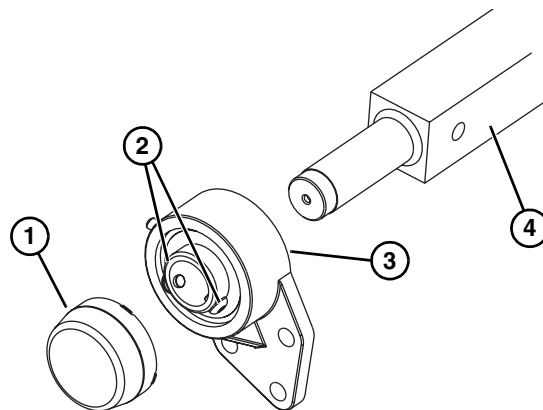

Figure 67
2. Remove the bearing cover (**Figure 67, item 1**).
3. Use a hex wrench to loosen the bearing shaft assembly fasteners (**Figure 67, item 2**).
4. Slide the bearing flange assembly (**Figure 67, item 3**), off the spindle shaft end (**Figure 67, item 4**).